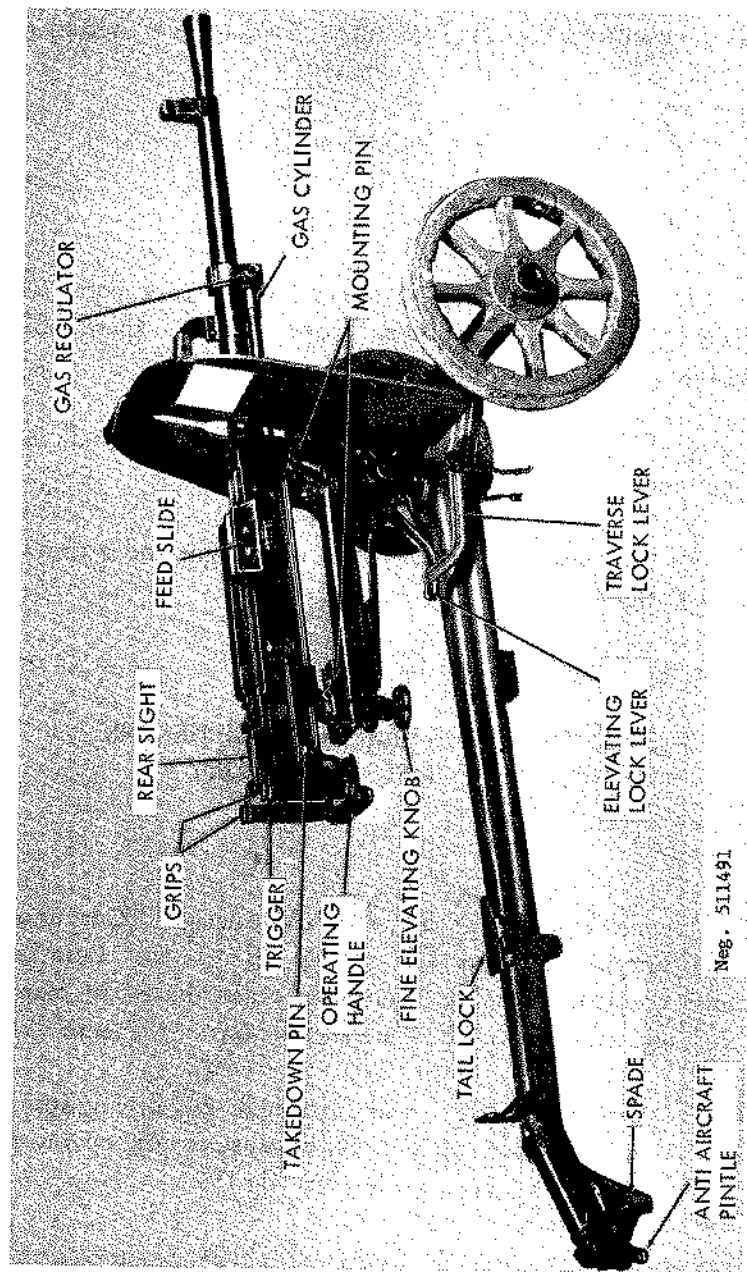

Figure 192. Goryunov SG-43 heavy machinegun.
SG-43: Smooth barrel, sear attached to driving-spring guide, plain barrel lock, no dust covers, operating handle between spade grips (fig 192).
e. To fire, aim (using a normal sight picture), lift up the safety with the thumb of one hand, and press forward on the trigger (fig 192) with the other thumb. The bolt will remain open between bursts, but will remain closed on an empty chamber when the last round has been fired.
(1) Clear the gun (para 217f), but do not close the feed covers.
(2) If the weapon is an SG-43 or SG-43M, pull the takedown pin (fig 192) to the right and remove the backplate. If the gun is an SGM, SGMT, or SGMB, depress the detent in the latch on the top center of the backplate and slide the latch to the rear. Rotate the backplate to the right until it can be removed. Pull out the driving spring.